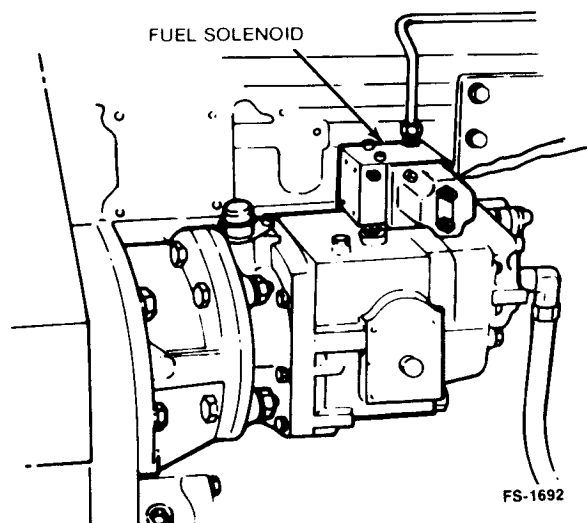

FIGURE 18. FUEL SOLENOID VALVE LOCATION
5. Disconnect wire from fuel solenoid valve (Figure 18), close throttle and crank engine while maintaining an external prime pressure of 15 psi (103 kPa), for 15 seconds.